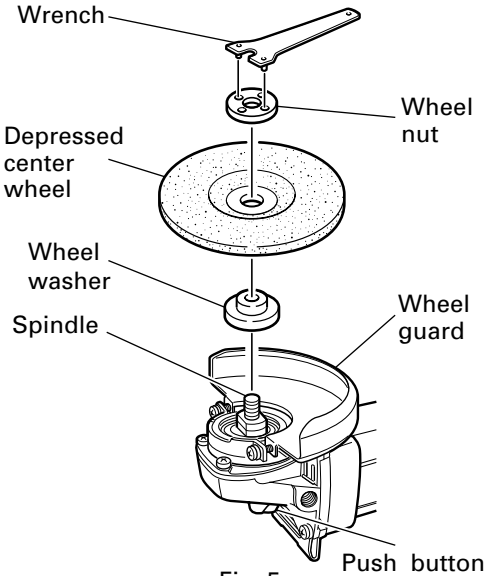

Fig. 5
10. Check the push button. Make sure that the push button is disengaged by pushing push button two or three times before turning on the grinder. (Fig. 5)
- (1) Turn the disc grinder upsidewind so that the spindle is facing upward.
- (2) Align the oval-shaped indentation of the wheel washer with the notched part of the spindle, then attach them.
- (3) Fit the protuberance of the depressed center wheel onto the wheel washer.
- (4) Screw the wheel nut onto the spindle.
- (5) While pushing the push button with one hand, lock the spindle by turning the depressed center wheel slowly with the other hand. Tighten the wheel nut by using the supplied wrench as shown in Fig. 5.